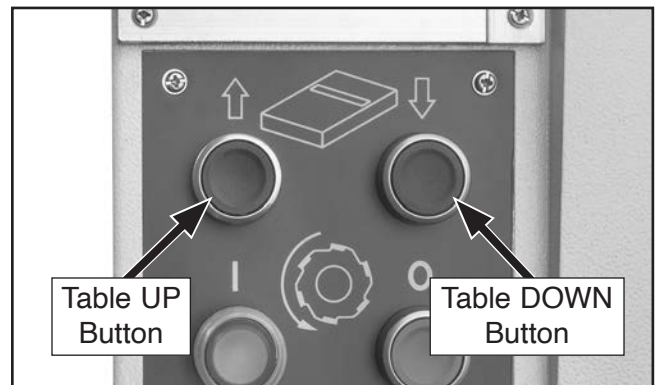

Figure 52. Location of table UP and table DOWN buttons.
- Press and hold table UP button (see **Figure 52**) to raise table. Release button to stop movement.
- Press and hold table DOWN button (see **Figure 52**) to lower table. Release button to stop movement.